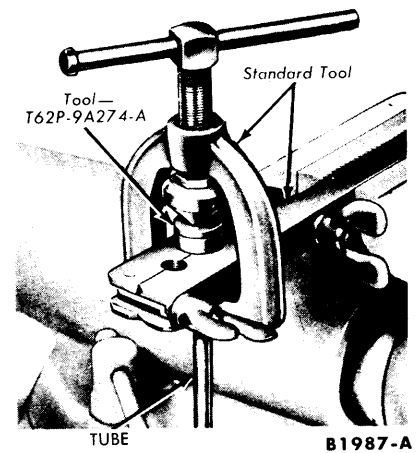

FIG. 3—Fuel Line Tube Die
2. Ream the inside edges of the cut tubing with the reamer blade on the tube cutter. **Be sure metal chips are removed from inside the tube(s).** Flare the ends of the cut tubing, as required, with a standard tube flaring kit and tool (Fig. 3).